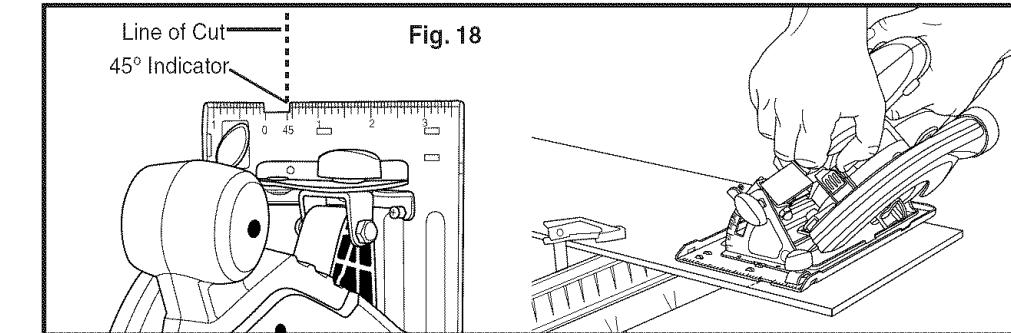

Fig. 18
MAKING BEVEL CUTS (Figs. 18)
1. Your saw can be adjusted to cut at any angle between 0° and 50°. When making 45° bevel cuts, there is a notch in the saw base to help you line up the blade with the line of cut (see Fig. 18).
4. When making a bevel cut **HOLD** the saw **FIRMLY** with both hands (see Fig. 18).